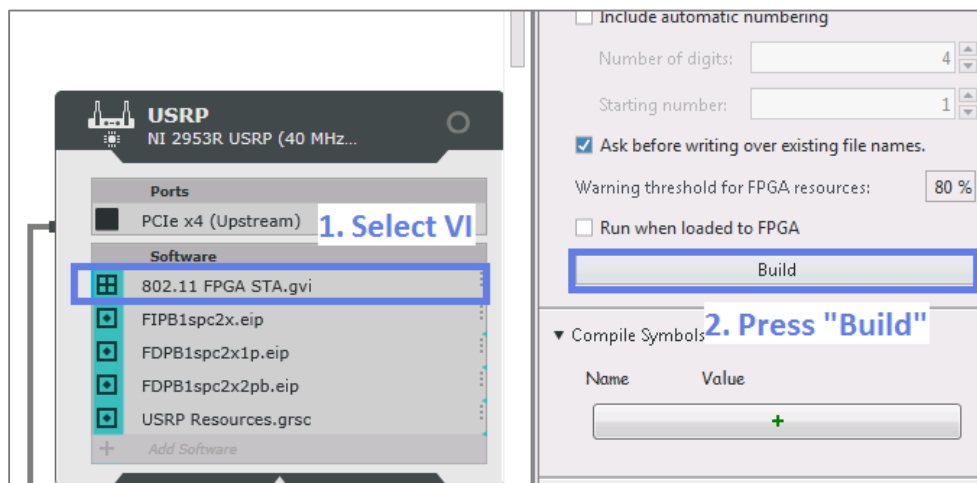

Figure 16 - Build a bitfile for the selected FPGA Top-Level VI
- c. Click **Build** on the right-hand rail as shown in Figure 16.